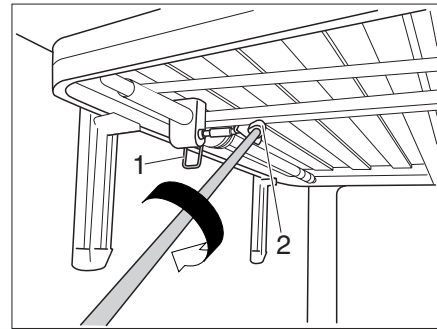

Fig. 144 Height adjustment
- Loosen the locking lever (Fig. 144,1). The bed can now be adjusted.
- Slide the crank into the magnetic square recess (Fig. 144,2). The height of the bed can now be changed.
- Pull the crank out of the square recess (Fig. 144,2) and keep it in the holder.